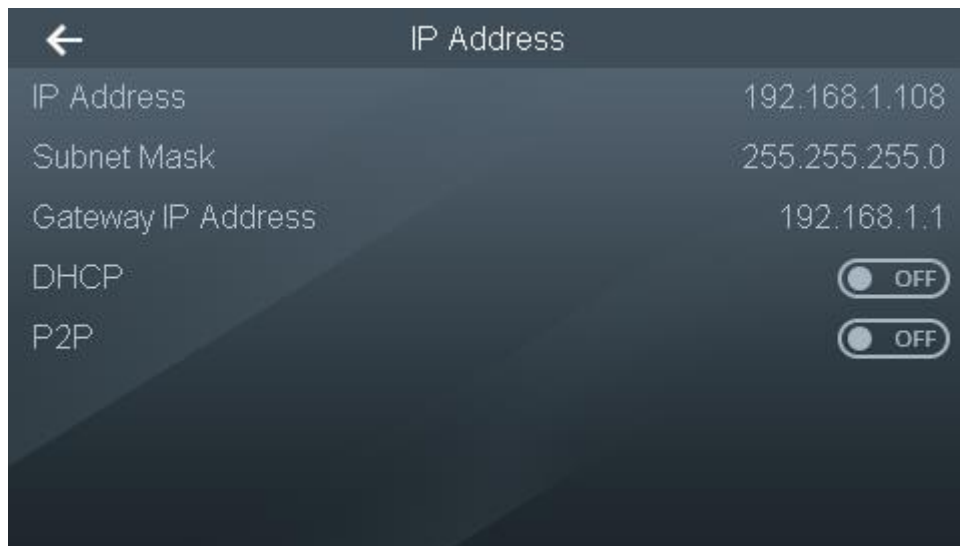

Figure 3-12
1. Select “IP Address”, and the screen displays Figure 3-12.